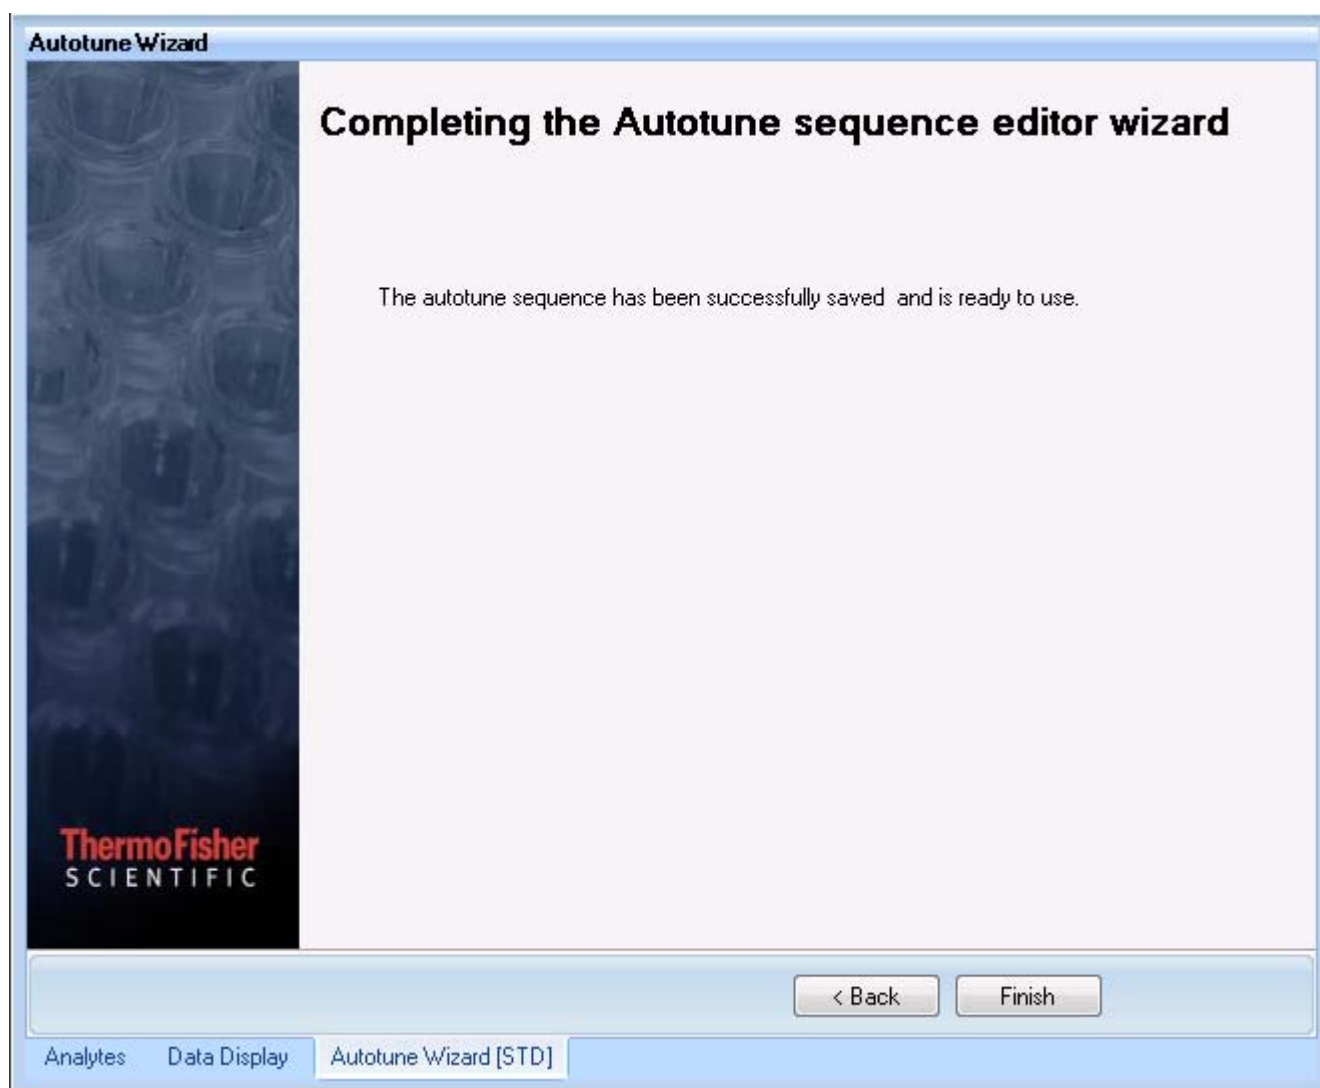

Figure 4-56. Autotune sequence is saved in Autotune wizard
17. Click **Next**, see Figure 4-56.